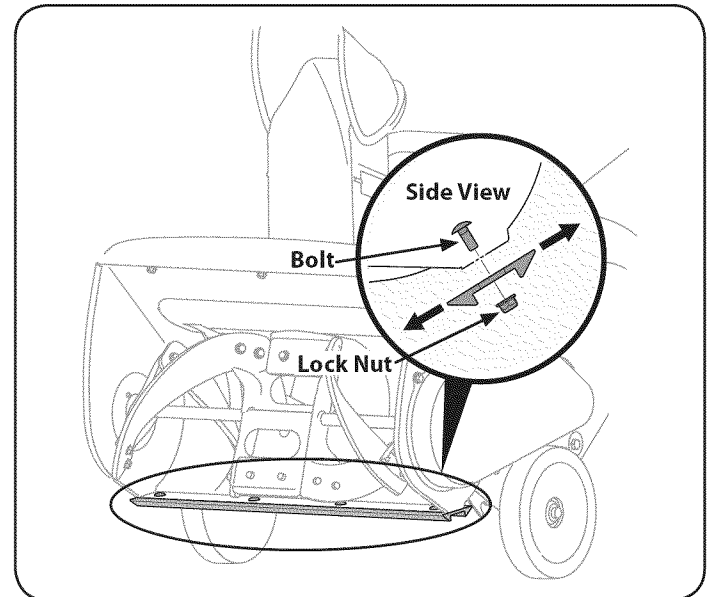

Figure 14
3. Loosen the four lock nuts and bolts which secure the shave plate to the housing. See Figure 14. Move the shave plate to the desired position and retighten the nuts and bolts securely.